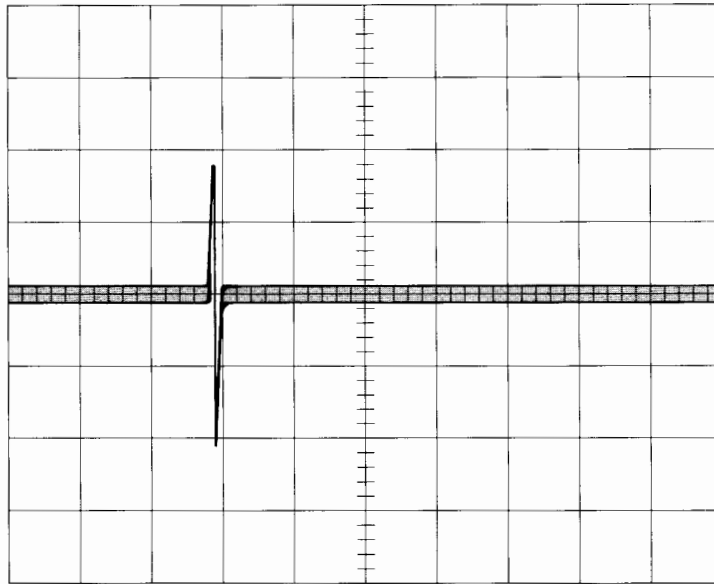

Figure 3-15. Index Timing Waveform
7. The timing between the start of the sweep and the first data pulse should be $200 \pm 100 \mu\text{sec}$ (see Figure 3-15). If the timing is not in tolerance, continue with this procedure.